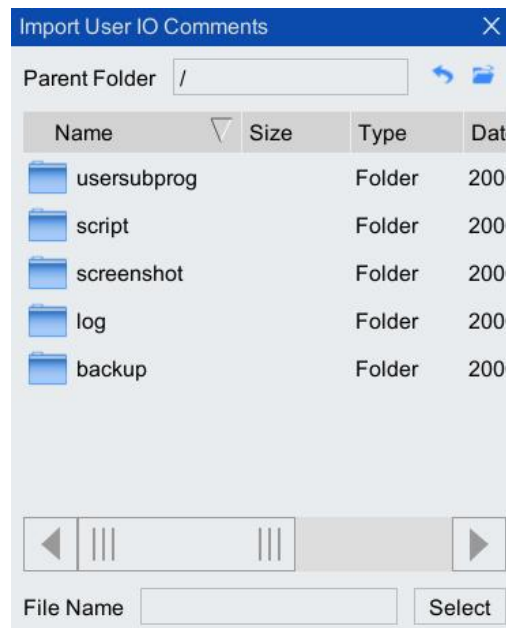

Figure 7-10 "Import user IO comments" list box
- Step1. In the main interface of the teach pendant, click "File > Restore Backup > User IO Comment" option, and the "Import User IO Comment" list box as shown in Figure 7-10 will pop up.